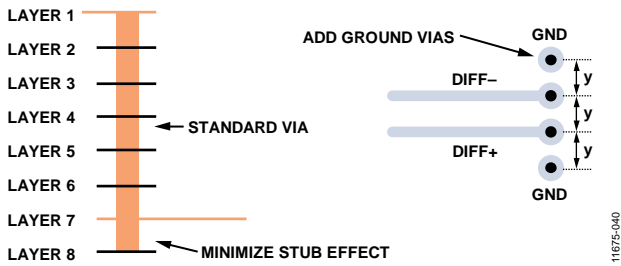

Figure 63. Minimizing Stub Effect and Adding Ground Vias for Differential Stripline Traces
- If using standard vias, use the maximum via length to minimize the stub size. For example, on an 8-layer board, use Layer 7 for the stripline pair (see Figure 63).
- For each via pair, place a pair of ground vias adjacent to them to minimize the impedance discontinuity (see Figure 63).